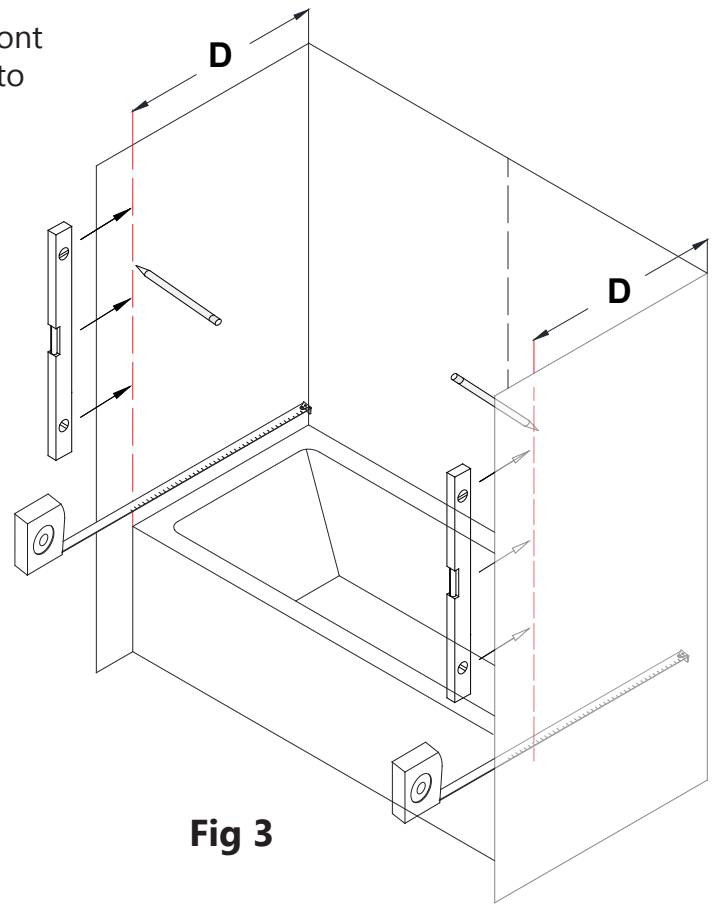

Fig 3
3. Measure the side walls from the corner to the front point where the **Side Panel (#01)** will be trimmed to size. Record this measurement as "**D**". (**Fig 3**)